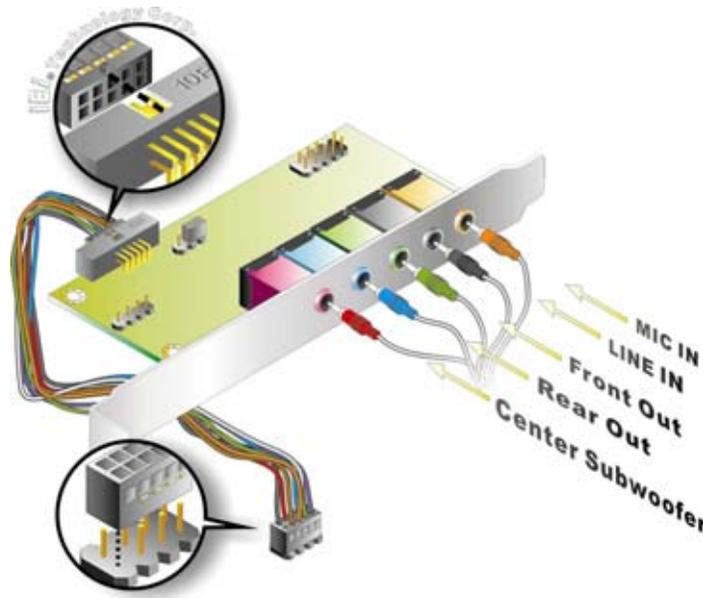

Figure 4-6: 7.1 Channel Audio Kit
- Step 3: Align pin 1.** Align pin 1 on the on-board connector with pin 1 on the audio kit cable connector. Pin 1 on the audio kit cable connector is indicated with a white dot. See Figure 4-6.